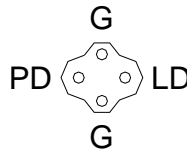

Figure 3 - LD and PD Orientation
- Most laser diodes are three pins with the case tied to one of the laser pins and also to one of the photodiode pins. The TCLDM9 was designed to operate the laser case at ground potential therefore this common pin will be inserted into either the 12 o'clock or the 6 o'clock position of the laser connector. Locate the isolated laser pin and insert it in the 3 o'clock position. The isolated photodiode should now be in the 9 o'clock position. Refer to Fig. 3.